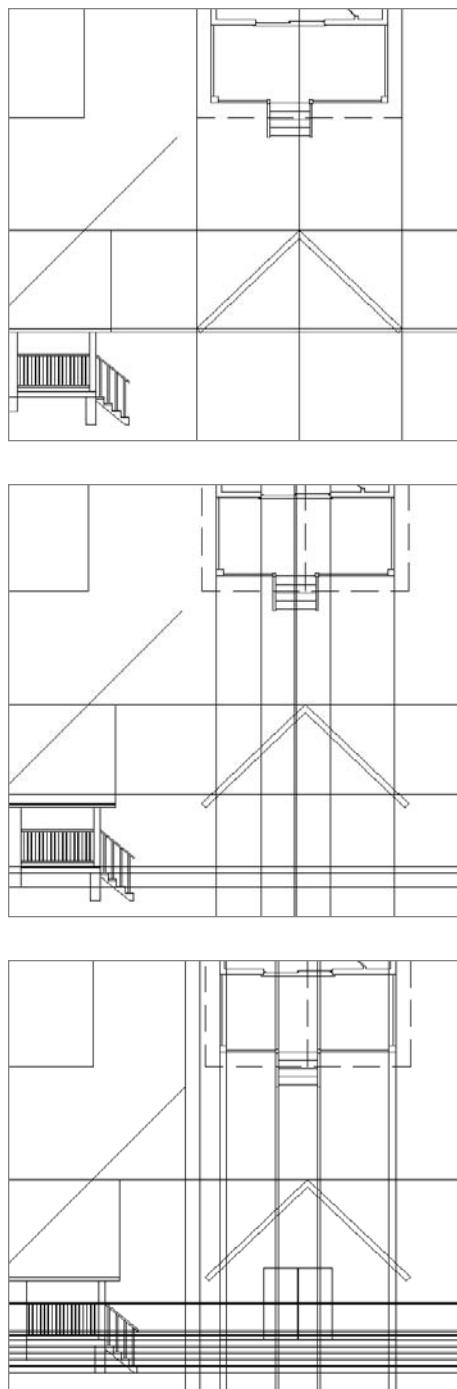

FIGURE 10.49 Incrementally drawing the front elevation starting with the roof (top); the wall, door, and foundation (middle); and finally the deck (bottom)
- ▶ Draw the roof first and remember that there is a thin layer of roof covering (see the top of Figure 10.49).
- ▶ Draw the wall, door, and foundation next. You won't be able to get the height line for the sliding-glass door from the side elevation. It's 7'-3" (2210 mm) from the top of the deck (see the middle of Figure 10.49).
- ▶ Finally, draw the pop-out, deck, railings and support posts. The railing posts have the same size and spacing on the front of the deck as they do on the sides, and the support post measures 1'-0" (305 mm) across. This can create a congested drawing, and you may want to draw the guide lines only as necessary to draw each component and then erase them. (See the bottom of Figure 10.49.)